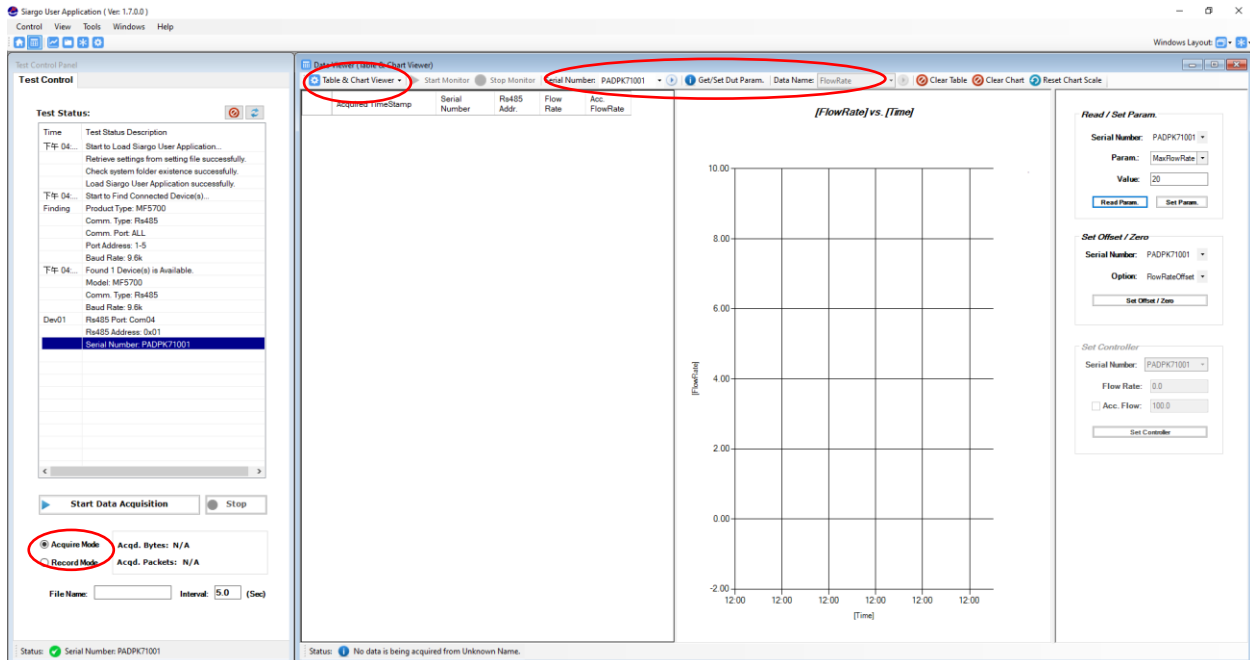

Figure 3
5. User may click “Start Data Acquisition” button to start test and “Stop” button to stop test. (See Figure 3)